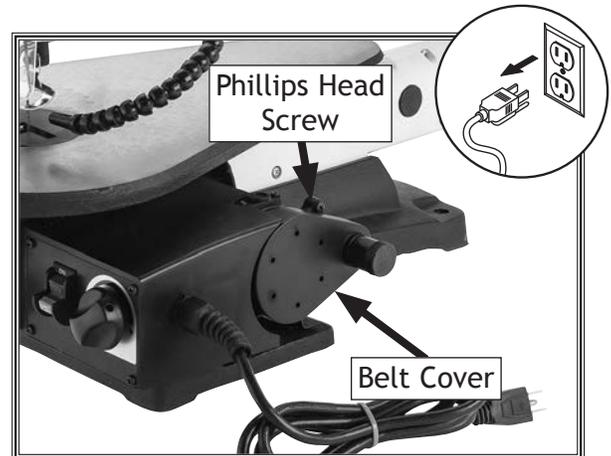

Figure 38. Timing belt cover screw location.
3. Remove three screws that secure belt cover shown in **Figure 38**, then remove cover.